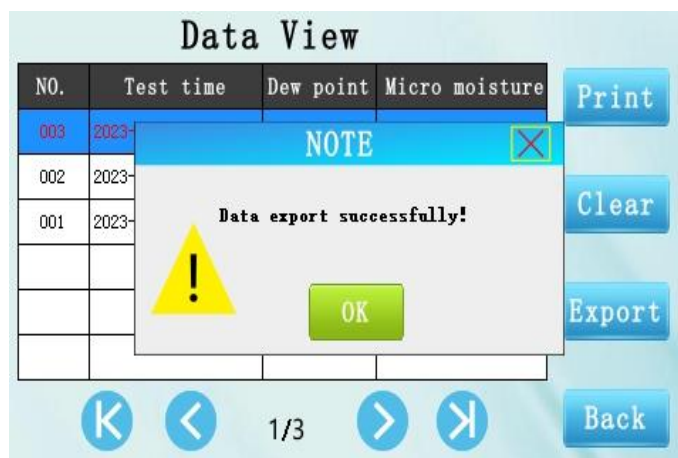

Figure 10 The export is successful
**(7) Export:** On the data browsing interface, insert the U disk, click the "Export" button, the instrument will transfer all historical data records to the U disk in CSV format, and prompt the export is successful, as shown in Figure 10.